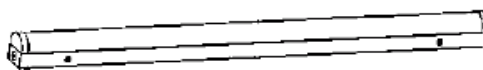

Figure 12
Step 3: Connect the wires according to the wiring instructions. Adjust sensing mode as you desire, and then assemble the disassembled lamp back. (Figure 12)